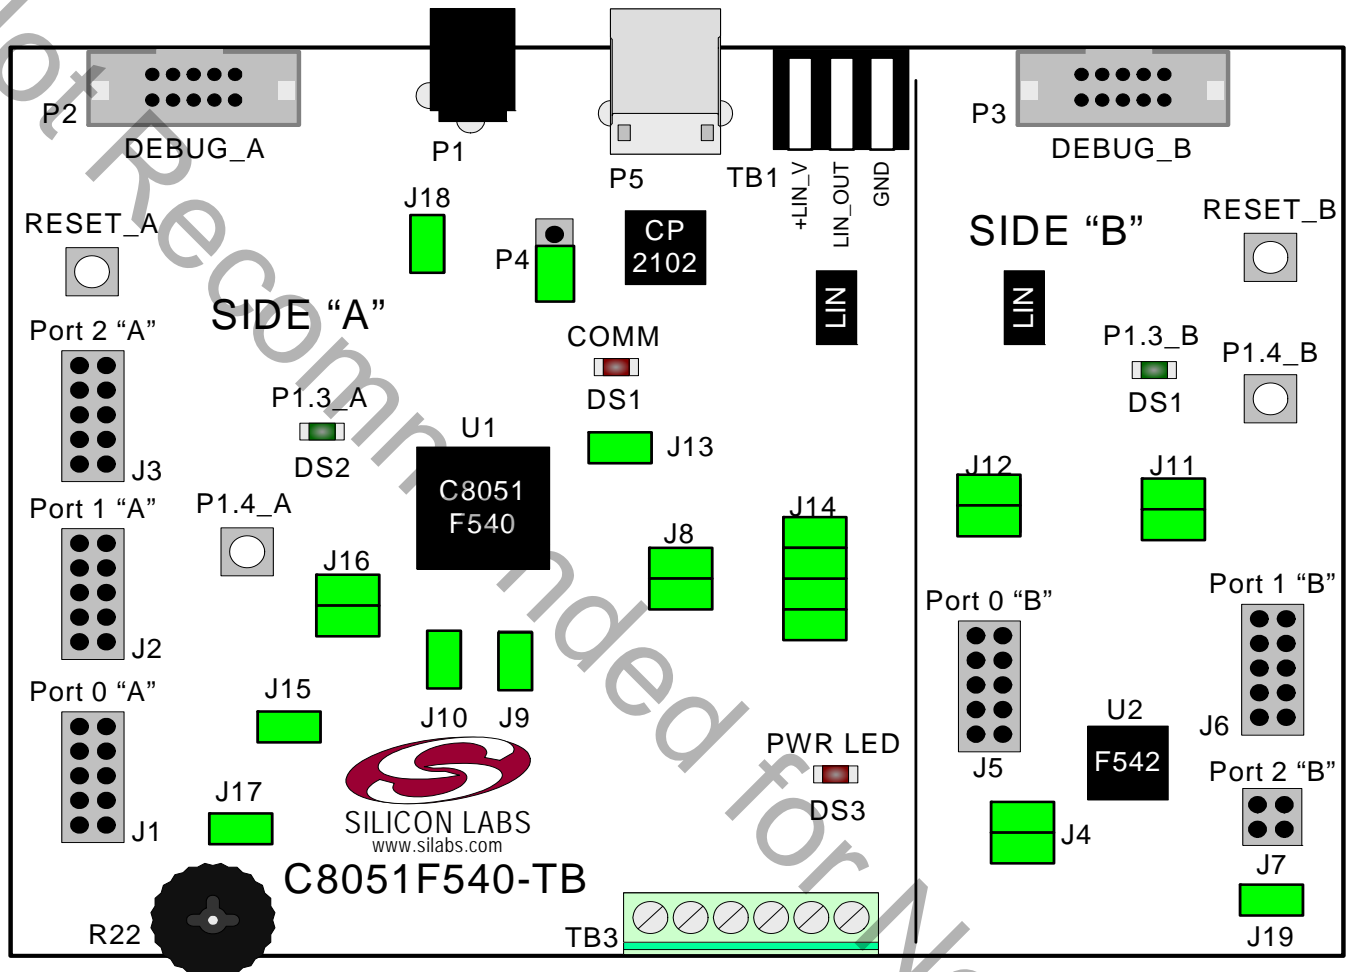

Figure 5. C8051F540 Target Board Shorting Blocks: Factory Defaults
3. Verify that shorting blocks are installed on the target board as shown in Figure 5 on page 7.
The C8051F540 Development Kit includes a target board with a **C8051F540** (Side A) and **C8051F542** (Side B) device pre-installed for evaluation and preliminary software development. Numerous input/output (I/O) connections are provided to facilitate prototyping using the target board. Refer to Figure 4 for the locations of the various I/O connectors. Figure 5 on page 7 shows the factory default shorting block positions. A summary of the signal names and headers is provided in Table 9 on page 13.
The C8051F540 Target Board comes from the factory with pre-installed shorting blocks on many headers. Figure 5 shows the positions of the factory default shorting blocks.